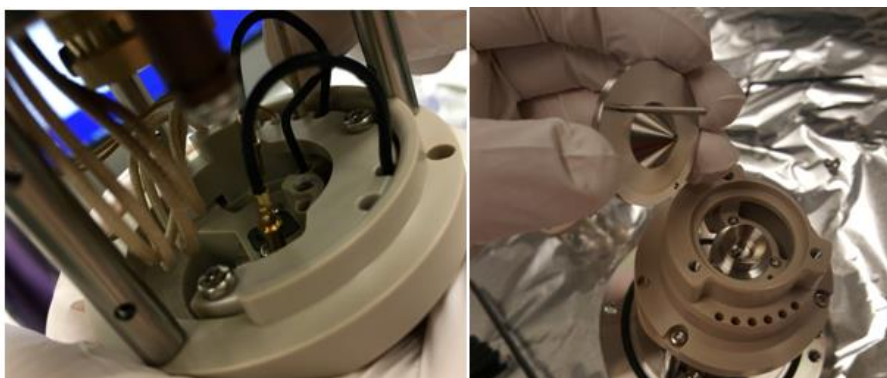

Figure 119: Removing the Skimmer Cone
- 16) Press on the electrical pin through the hole where the first jumper wire was just unplugged to remove the skimmer cone. All that holds the skimmer cone in place are the Q00 assembly and its electrical connection, so if you unplugged the wire in the previous step, it should just take a little bit of force to remove it. See Figure 119.